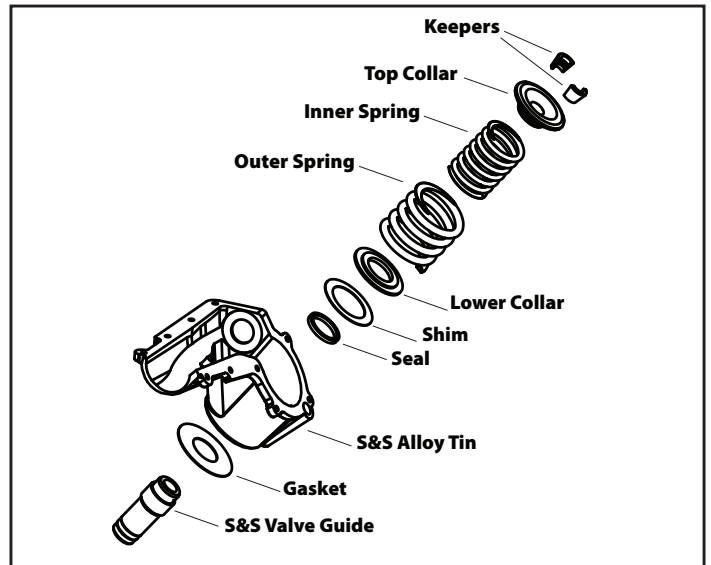

Figure 2
- i. Temporarily install valve, S&S alloy tin, lower gasket, bottom collar, top collar and top collar keepers. Do not install seal or valve springs. See Figure 2.
- c. Once spring height is confirmed, reassemble with seal and valve springs as shown in Figure 2. Coat both sides of the bottom gasket with Permatex® Right Stuff® sealant.